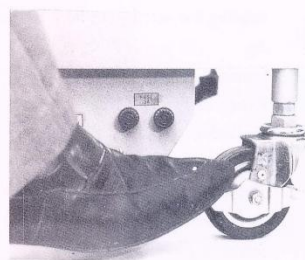

Fig.11
- (1) Choose working distance. There are two objectives with f200 and f300. Choose one of them according to requirement of operation. (Usually the microscope is assembled with f200 objective before leaving the factory).
- (2) Take off the operation handle and sterilization cover, and have them sterilized before using. Assemble it while using.
- (3) Release the brake with one foot (refer to Fig.11). Move the instrument to a proper position. Stamp down the brake wing so that the machine isn't able to move. Then insert the power plug of microscope into the 220V output socket on the lower part of the base. Connect 220V input with power source.
- (4) Make the small arm be in a horizontal position. Adjust the table height. Be sure the objective is about 200mm from the floor.